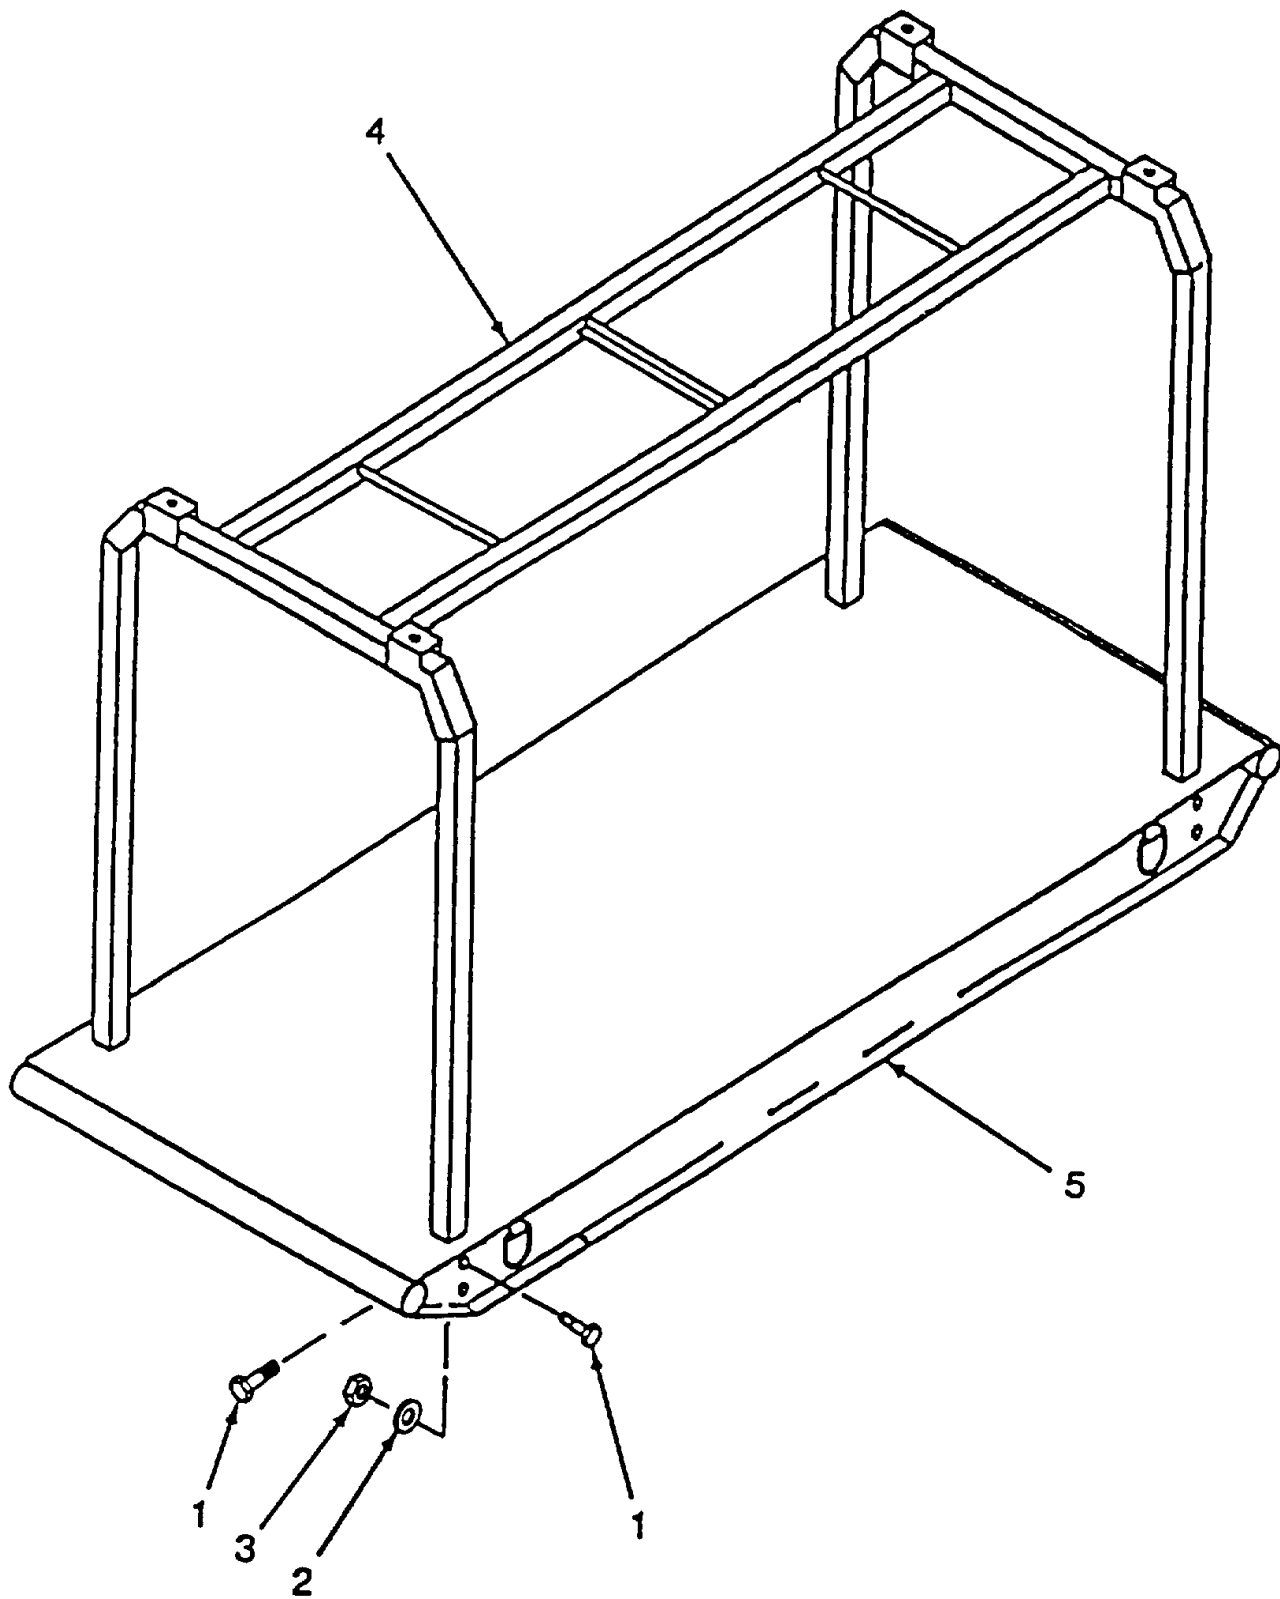

Figure 5-3. A-Frame
- a. Removal. (Refer to Figure 5-3).
- (1) Remove twelve hex head - cap screws (1), twelve washers (2) and twelve self-locking nuts (3) holding A-frame (4) onto skid weldment (5). Discard twelve self-locking nuts. Typical four places.
- (2) Lift A-frame (4) from skid weldment (5).